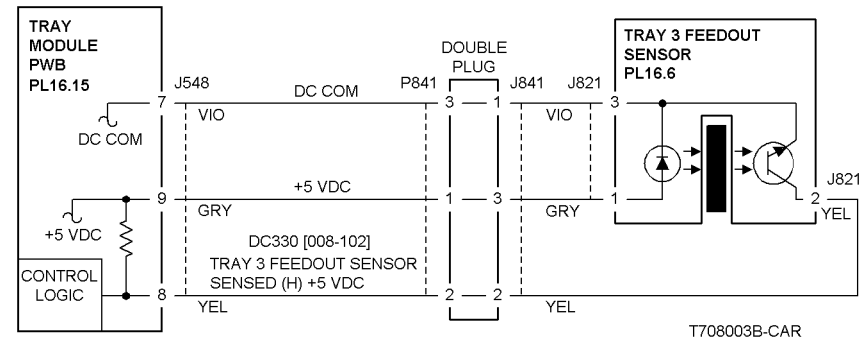
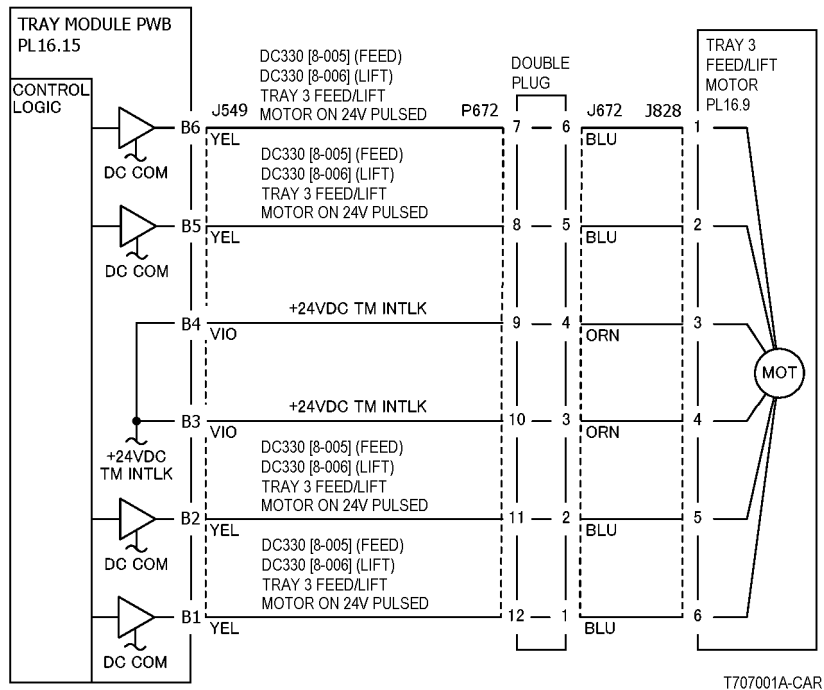
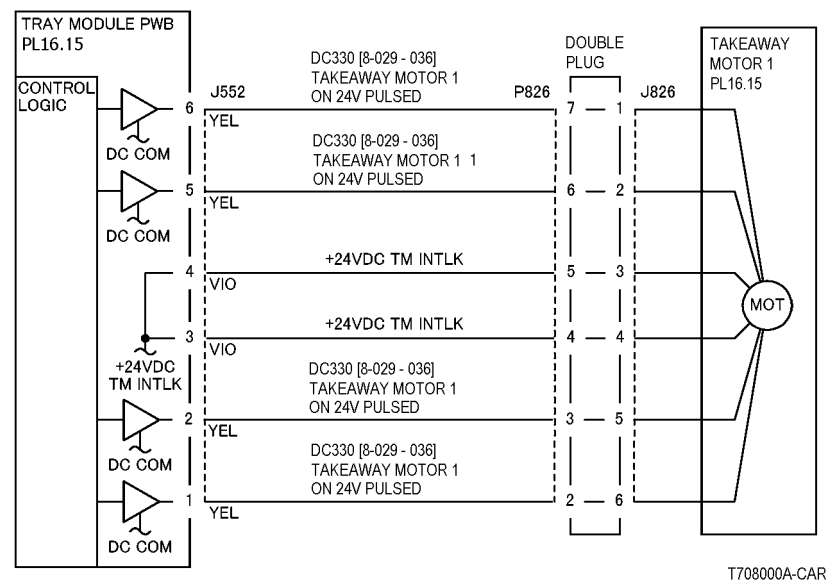

Figure 1 7-115 RAP Circuit Diagram - Tray 3 Feedout Sensor (TTM)
Figure 2 7-115 RAP Circuit Diagram - Tray 3 Feed/Lift Motor (TTM)
Figure 3 7-115 RAP Circuit Diagram - Takeaway Motor 1 (TTM)
- Ensure that the connectors shown in the circuit diagrams (Figure 1, Figure 2, Figure 3) are securely connected and that the wires are not damaged.